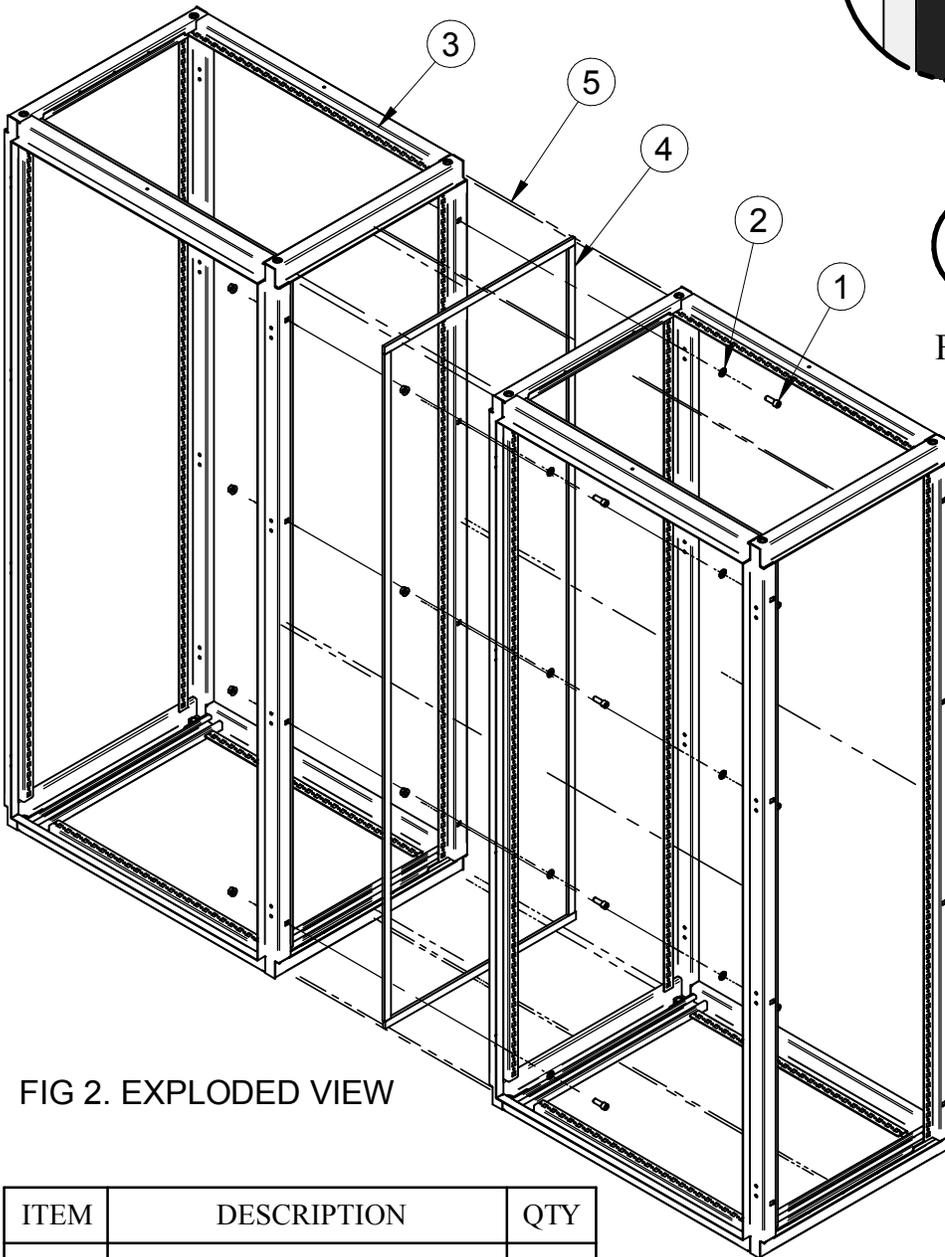

FIG 2. EXPLODED VIEW
E) Bolt together using hardware as shown in fig.2.